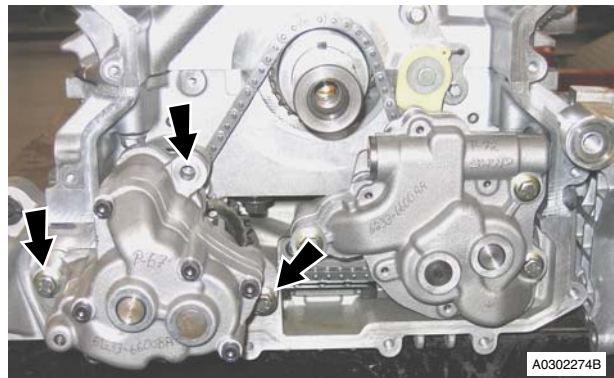

Figure 3
9. Remove bolts (x3) securing oil scavenge pump to sump (see Figure 3).